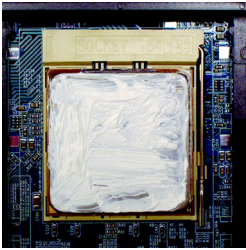

Figure 3.
Step1-2. When the processor is installed in the socket, apply thermal grease to the processor(as shown in Figure 3) prior to installing the heatsink. Phase change materials develop strong adhesive forces between the heatsink and processor. **Removing the heatsink under such conditions can cause the processor to be removed from the socket without moving the socket lever to the unlocked position and then damage the processor pins or socket contacts.**